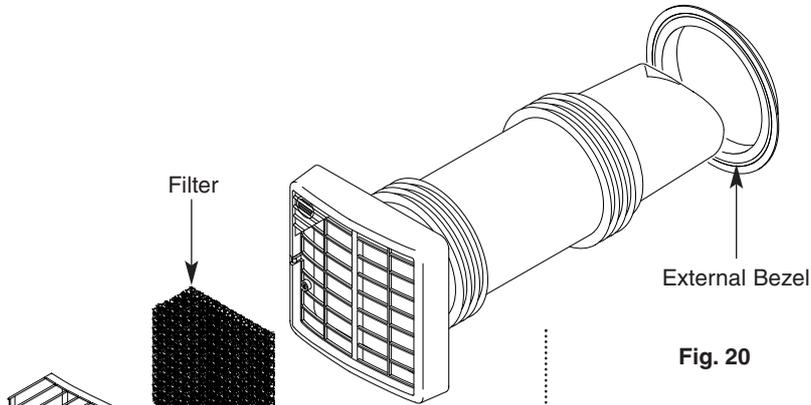

Fig. 20
2. Unclip the removable grille from the unit and remove filter (Fig. 20).